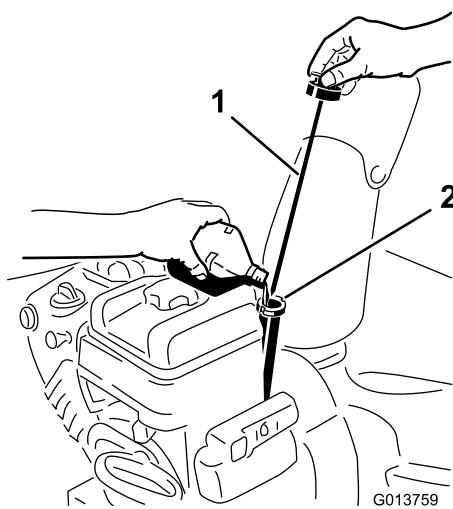

Figure 13
2. Clean around the dipstick (Figure 13).